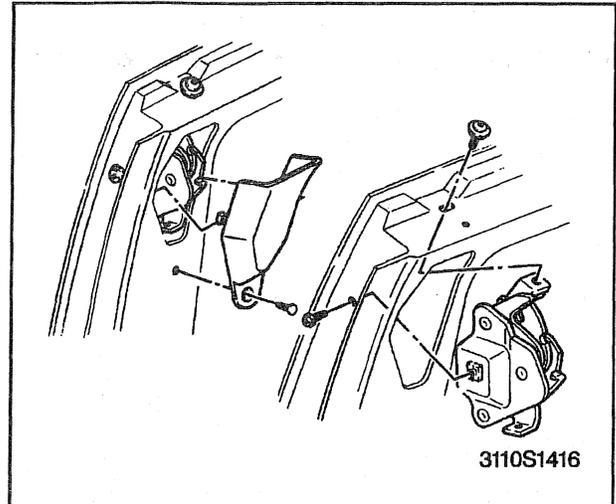

**Figure 78—Upper Latch Control Rod**
### ↔ Remove or Disconnect (Figures 78 and 79)
**↔ Install or Connect (Figures 78 and 79)**